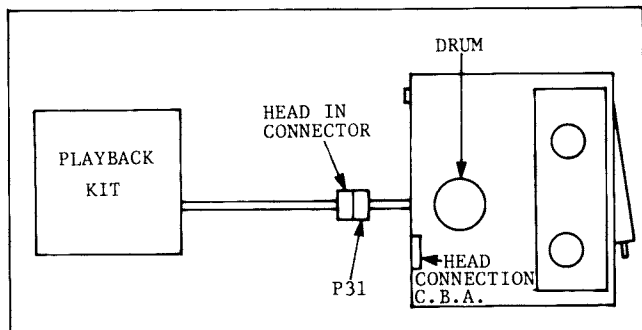

Fig. 14. ADJUSTMENT CONDITION
7. Connect the HEAD INPUT of the PLAYBACK KIT to the HEAD CONNECTOR (P31) on the unit, as shown in Fig. 14.